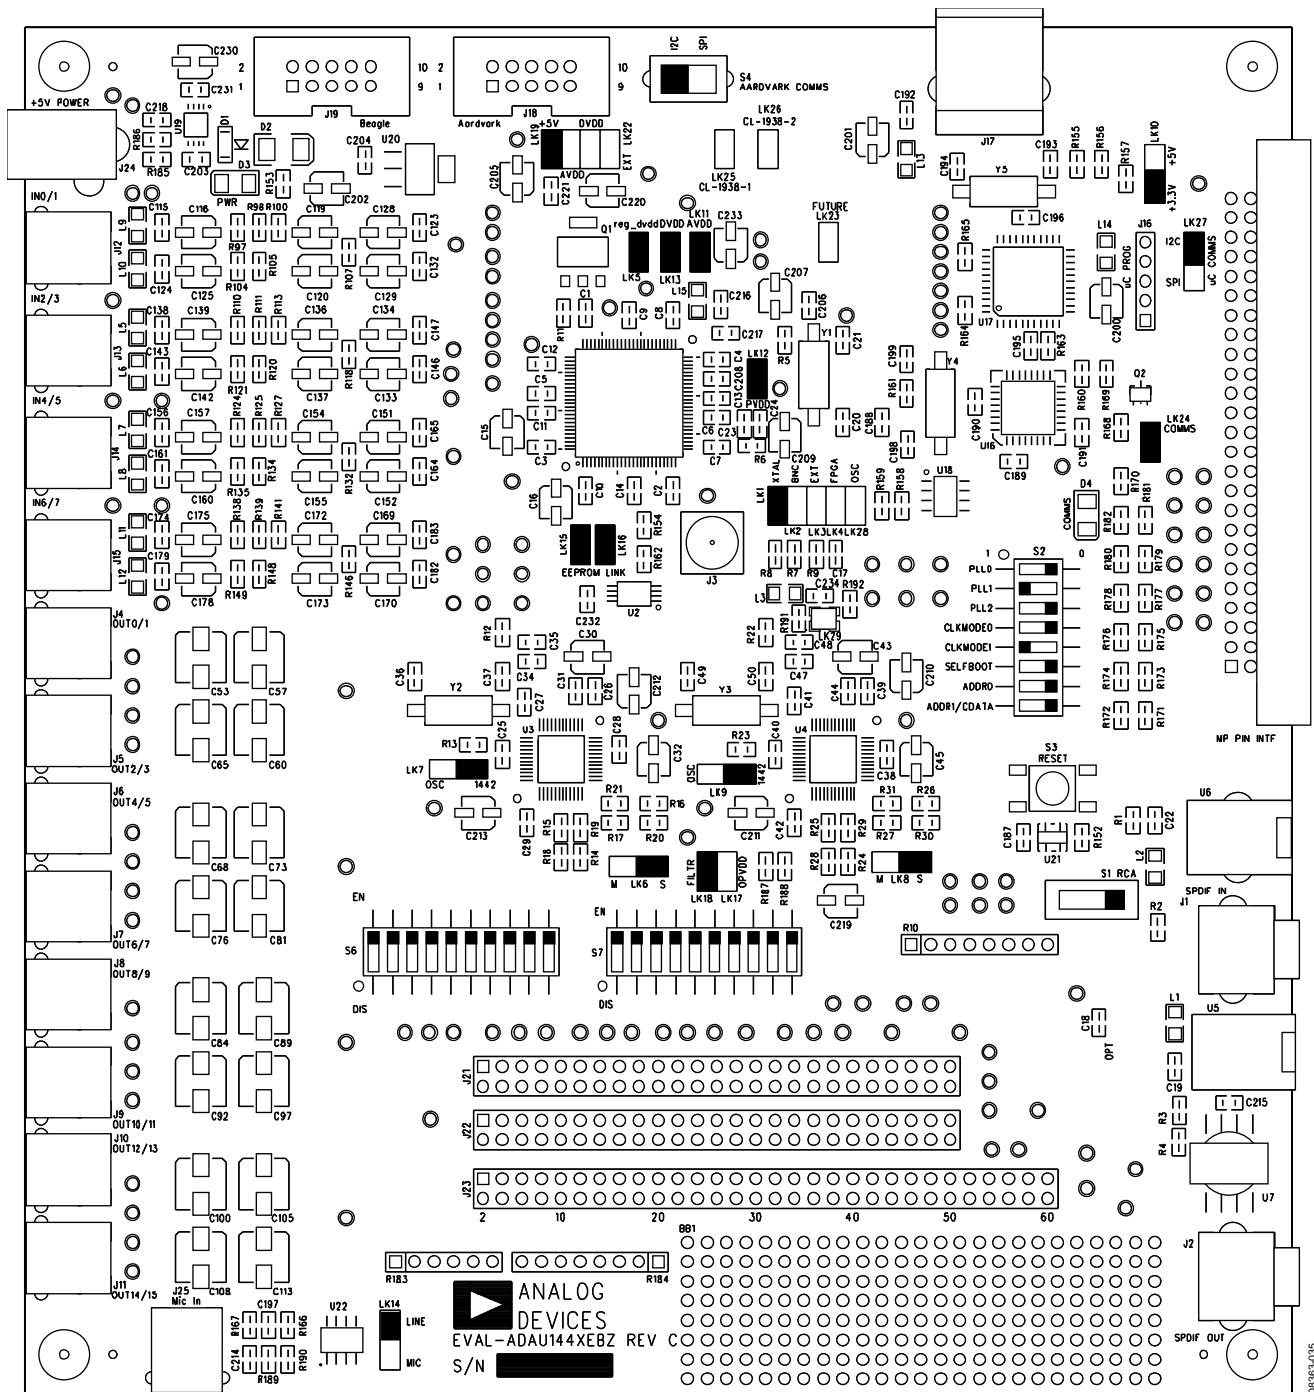

Figure 35. Default Switch and Jumper Settings
20. Set the switches and jumpers to correspond to the default settings in Figure 35. A black rectangle corresponds to the position of a switch or jumper.
the DSP, back through the codecs, and to the output connectors. Descriptions with direction references are based on the orientation of the board shown in Figure 35.